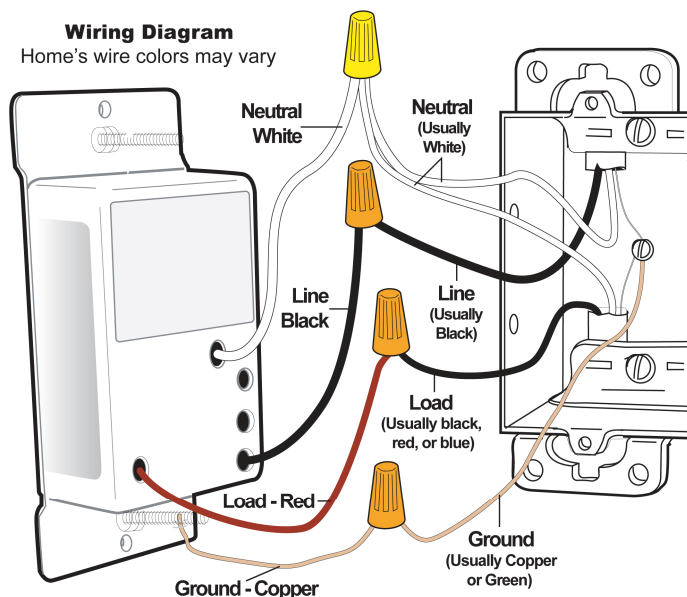

Figure 1
- 4) To correctly identify the LINE, LOAD, NEUTRAL, and GROUND wires, enable power to the switch from the circuit breaker or fuse panel, use a line voltage meter, then turn the breaker off again. See Figure 1 to properly connect your wires to SwitchLinc.